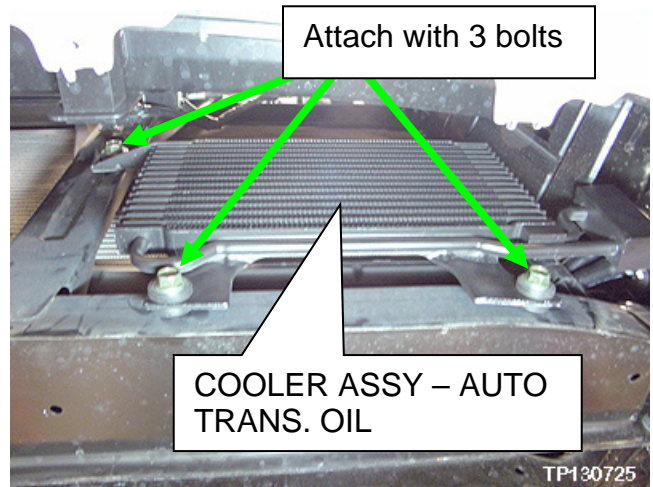

Figure 5
**NOTE:** Figure 5 is shown looking from the bottom of the vehicle upward, at the lower front radiator/condenser support.